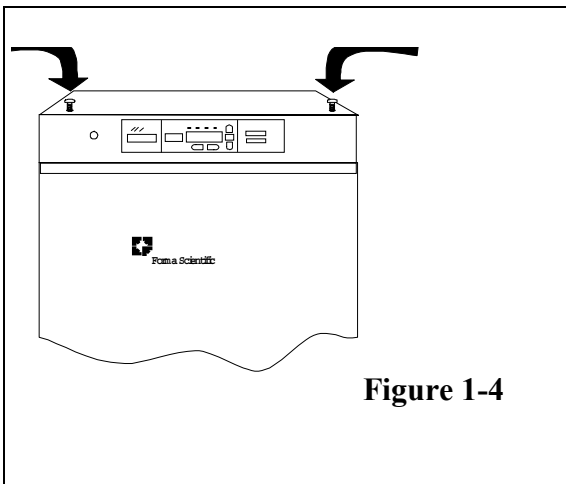

Figure 1-4
1. Unscrew the slotted head screws on the top of the bottom incubator about an inch. Refer to Figure 1-4.
2. Unscrew and remove the leveling feet from the *top* unit and lift it onto the *bottom* unit, offsetting the base of the *top* unit approximately 2-3 inches behind the screws identified by the arrows in Figure 1-4.